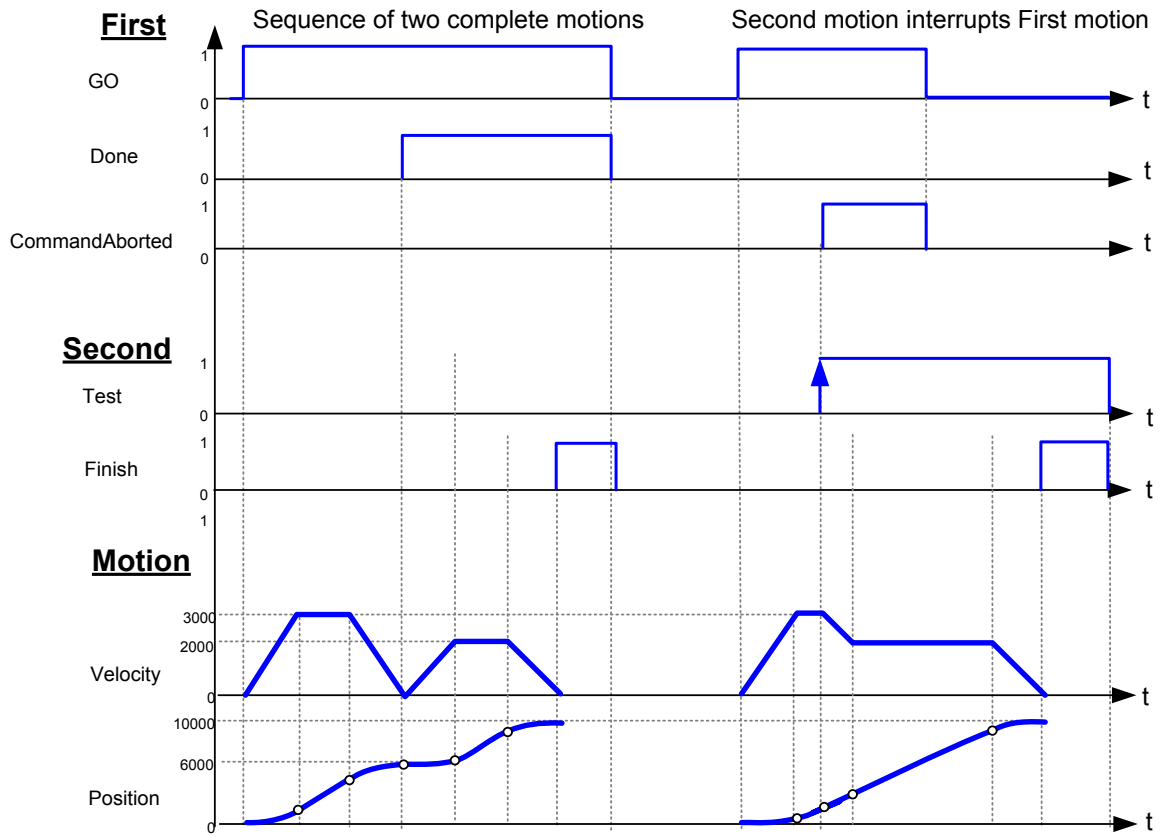

Figure 4-32: Timing diagram for MMC_MoveAbsolute – Example
1. The left part of timing diagram in **Figure 4-32** illustrates the case where the second function block is called after the first one. If the first block reaches the commanded position of 6000 (and the velocity is 0) then the output Done causes the Second function block to move to the position 10000.